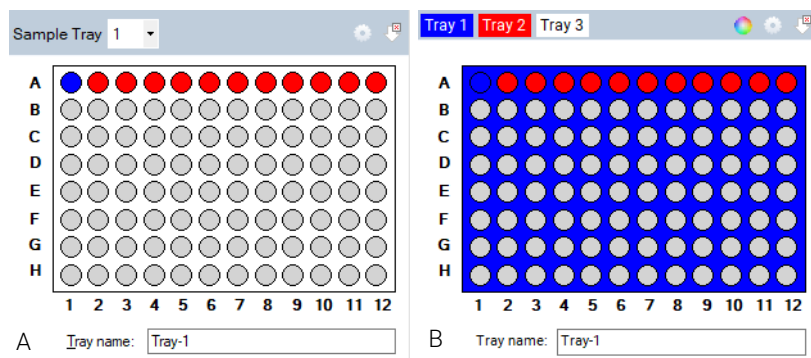

Figure 40 Classic drop-down tray selection (left), and colored tab tray selection (right).
Select the sample tray to be used from either the **Sample Tray** drop-down list or the colored tab tray selection, depending which configuration is set (**Figure 40**).
The configuration can be set by selecting the  icon located in the upper right corner of the window shown in **Figure 40**.
- 2 Choose between the sample tray drop-down list or the colored tab tray selection as shown in **Figure 40**.
4 To select a row from the 96-well plate depicted in the sample/sample tray window, left-click once in that row (**Figure 40**). To select a new row left-click on another row.
5 To clear a row selection, select . (**Figure 40**)
The **Tray name** dialog box allows you to input a name for the tray being run (**Figure 40**). Alternatively, select this dialog box and use a barcode scanner to import sample names for the plate being run (for more information, refer to **Chapter 9**, “ProteoAnalyzer – Sample Name Entry”).